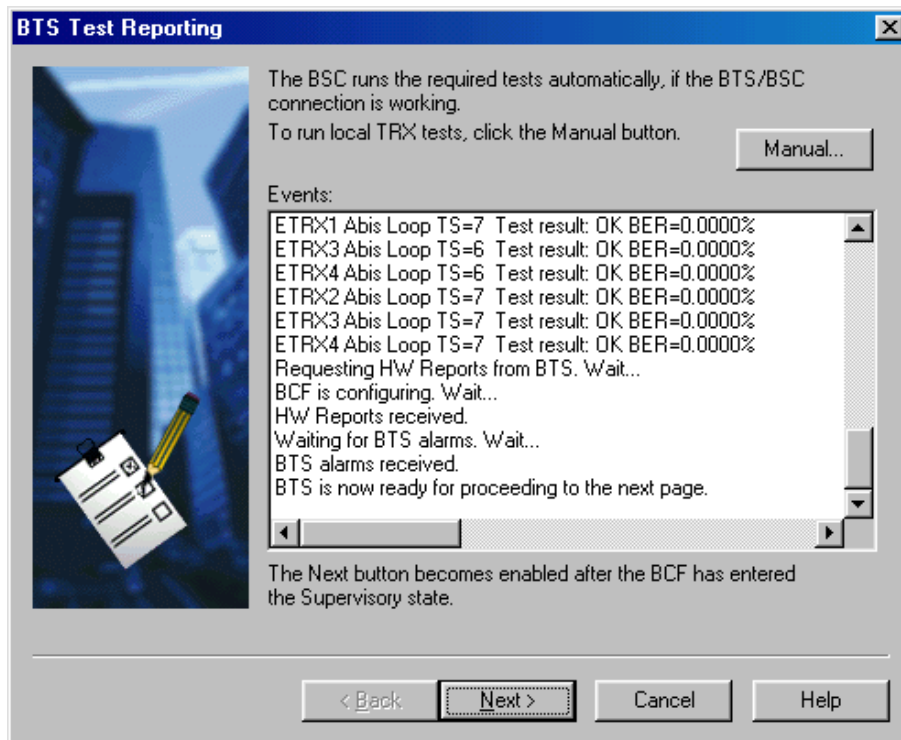

Figure 9. BTS test events
8. If Abis is connected, the *BTS Test Reporting* wizard page displays the test results (see Figure 9). Check the results in the 'Events' list.